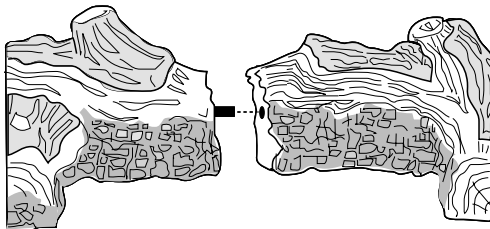

Figure 28. Install Rear Log.
1. Assemble the Left and Right Rear Logs as shown in fig 28. First engage the halves together, and then engage the pins on the burner skirt with the adjacent holes in the underside of the logs.